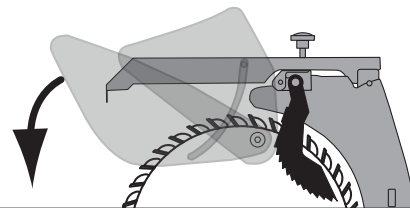

Figure 59. Typical ripping operation.
10. Use a push stick to feed the workpiece through the saw blade, as shown in **Figure 59**, until the workpiece is completely past the saw blade.